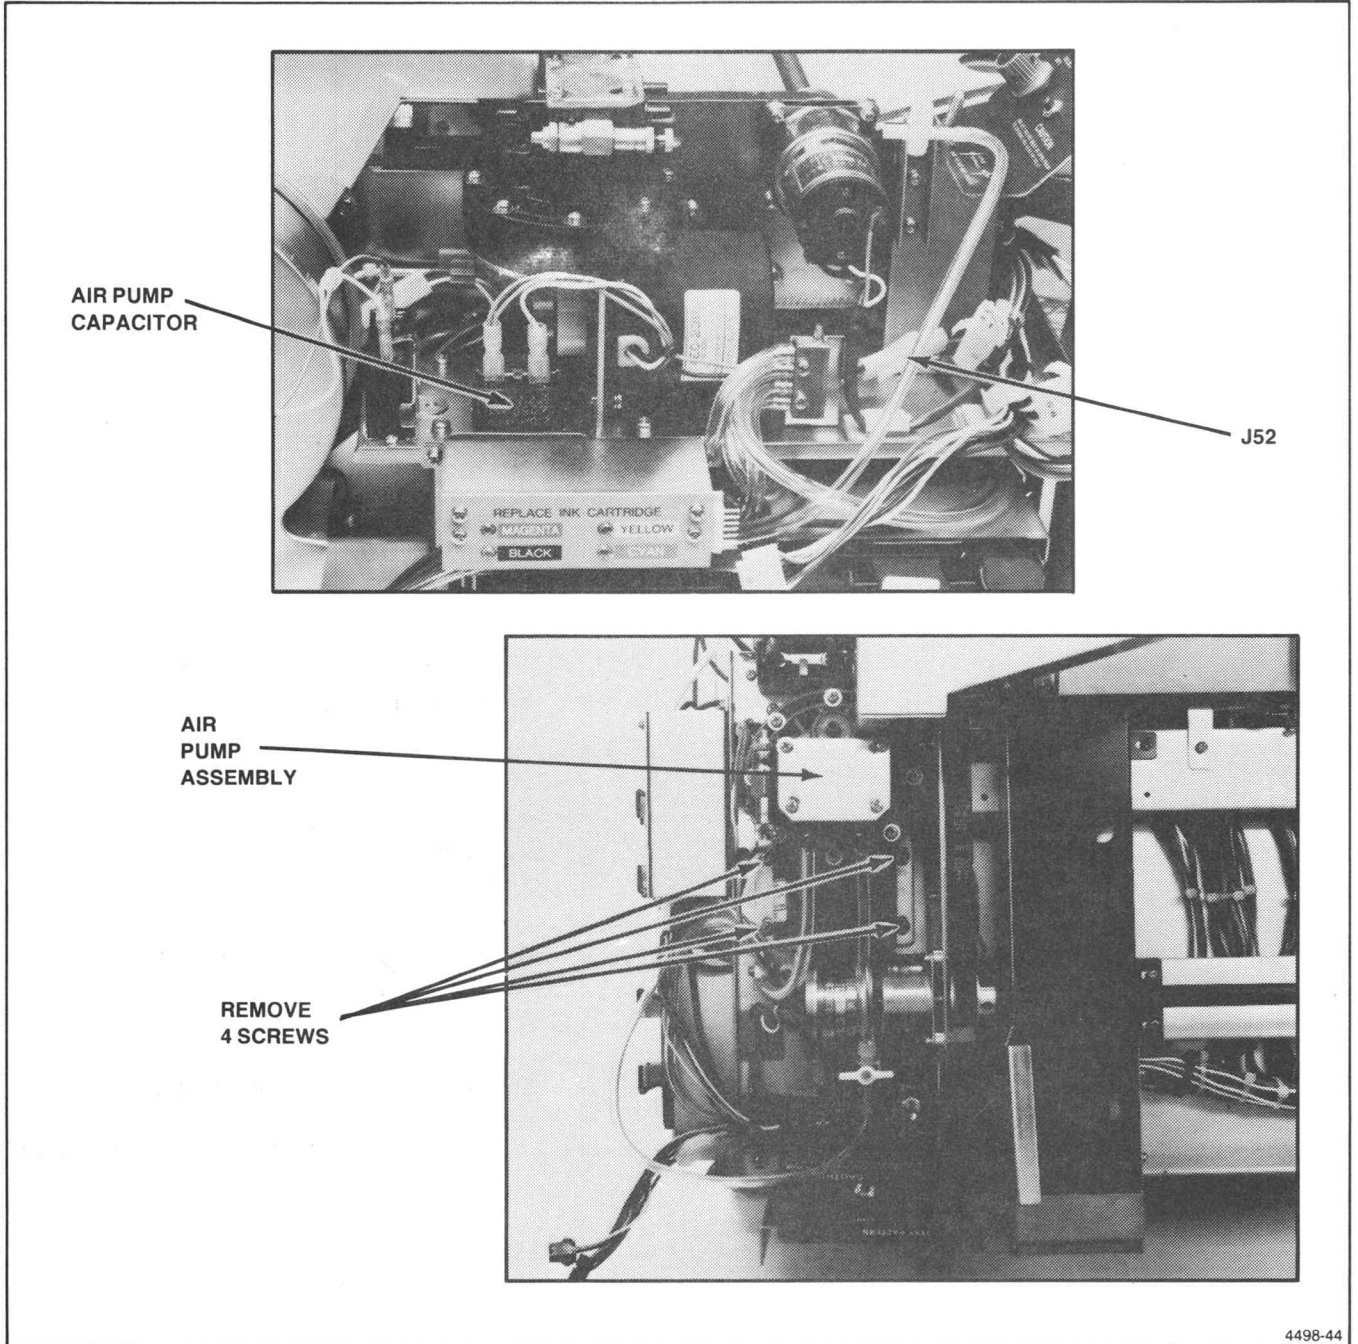

Figure 7-5. Air Pump Removal.
3. Disconnect J52 to the air pump, and the two quick disconnects to the air pump capacitor. See Figure 7-5.